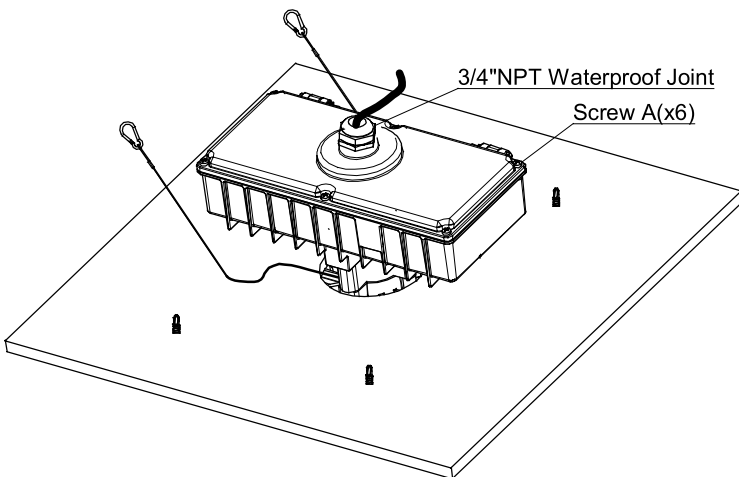

Figure 7
5. Replace and secure the driver box on the housing by removed Screws B (2) above the canopy ceiling. See Figure 7. Note: Make sure the Waterproof Ring C is between the driver box and threaded hub. Gasket is fully sealed.
8. Replace and secure the Driver Box Cover with removed Screws A (6). See Figure 7.